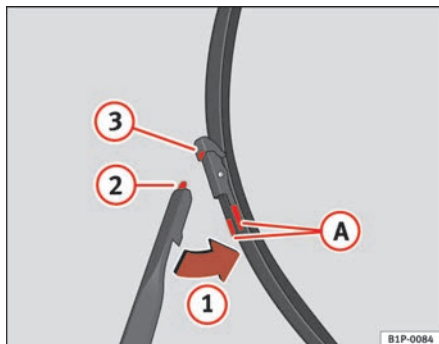

Fig. 148 Changing the front wiper blades
- Press on the side tabs (A) and release the blade moving it in the direction of the arrow (1) ⇒ fig. 148.
- Insert the tab (2) into the slot (3) of the blade ⇒ fig. 148.
- Move the blade towards the arm in the opposite direction of the arrow (1), until it clicks into position ⇒ page 215, fig. 148.